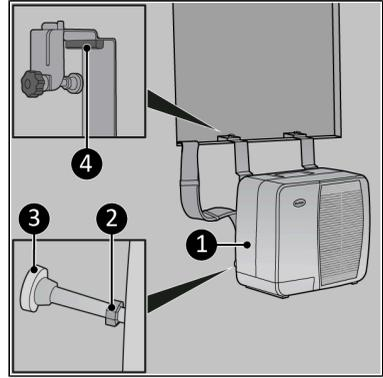

Figure 24.
4. If needed, use the removable block (Figure 24, pos. 4) on thinner walls or window frames.
5. Make sure the outdoor unit (Figure 24, pos. 1) hangs level by tightening the nut (Figure 24, pos. 2) on the adjustment bolt spacer. Make sure the bumper (Figure 24, pos. 3) is placed vertical.